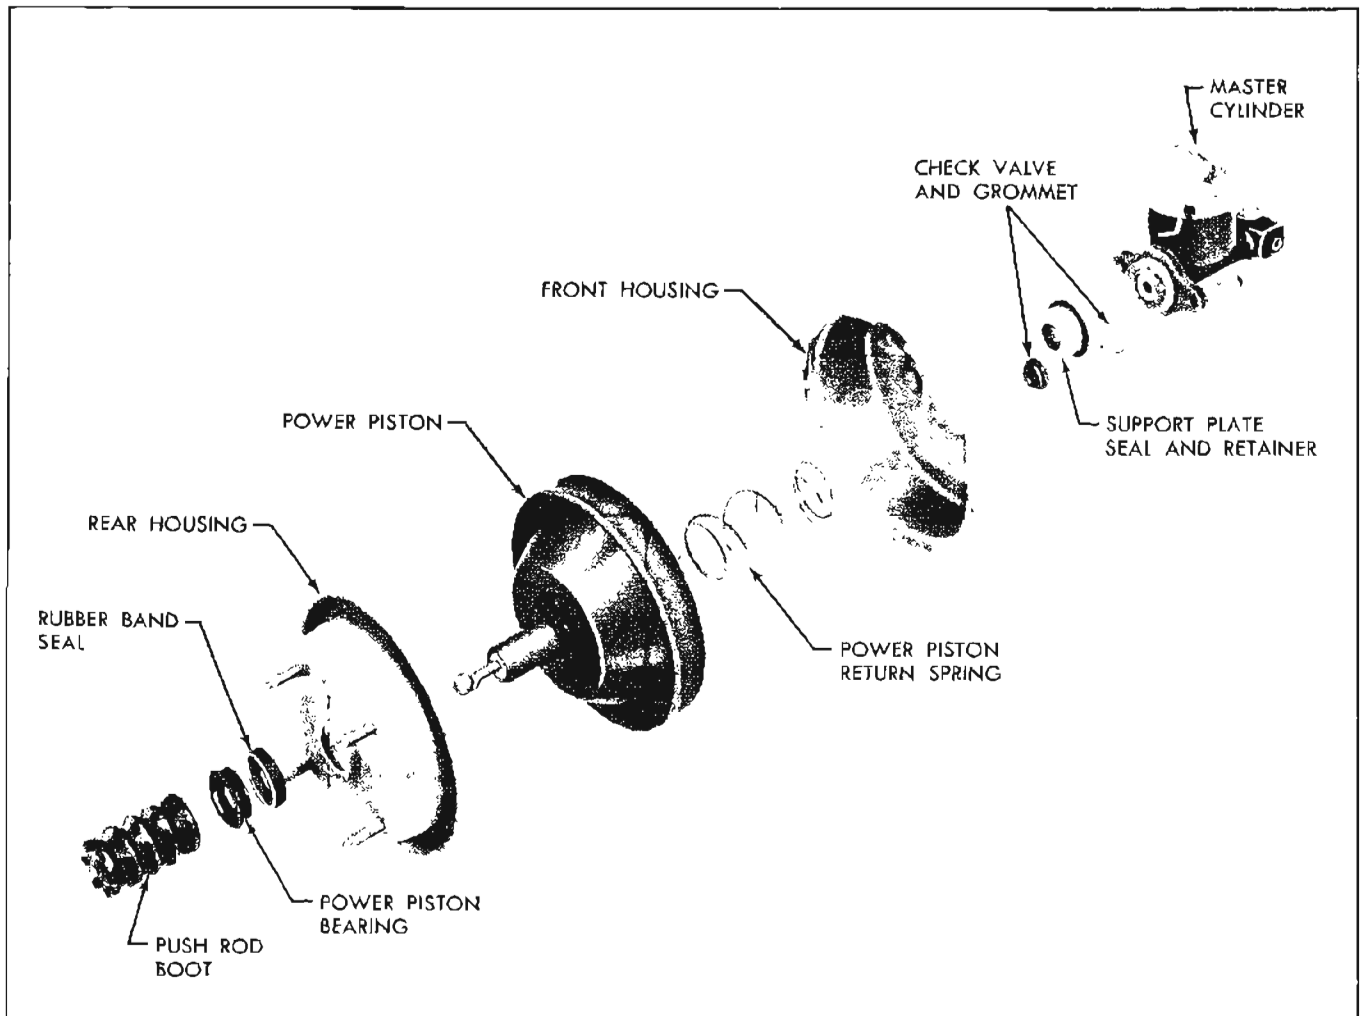

Figure 9-20—Power Brake Unit - Exploded View
The power piston assembly houses the control valve and reaction mechanism, and the power piston return spring. The control valve is composed of an air valve and floating control valve assembly. The reaction mechanism consists of a hydraulic piston reaction plate and three reaction levers. The push rod, which operates the air valve, projects out of the rear of the power piston through a boot. A vacuum check valve assembly is mounted in the front housing for connection to a vacuum source. See Figures 9-20.
9. From center hole in rear housing, remove the boot, rubber band seal and power piston bearing. See Figure 9-20.